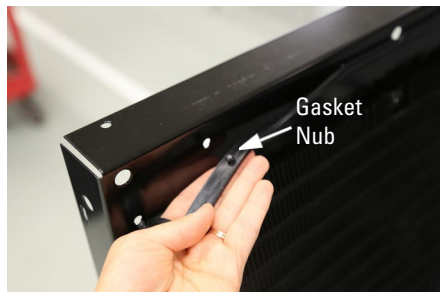

Figure 25: Position gasket on refrigeration module frame and ensure each gasket nub is inserted in corresponding hole
- 19. Ensure the black gasket is aligned and gasket nubs are inserted in corresponding holes on the frame of the refrigeration module (Figure 25).